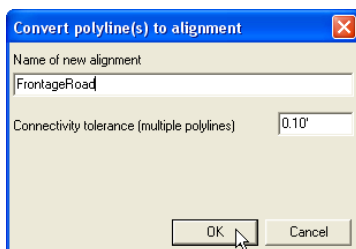

Figure 6-7. Set New Alignment Parameters
2. Enter a name for the new alignment and the connectivity tolerance for multiple polylines, then click **OK** (Figure 6-7). Selected polylines whose end points are within the tolerance from each other will be linked in the new alignment definition.